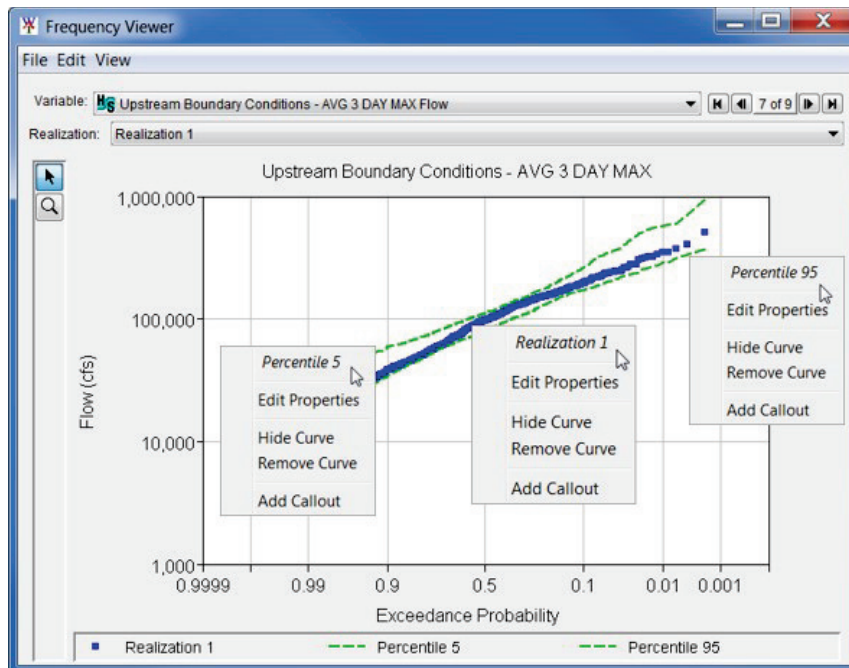

Figure M.14 Plot – Curve Shortcut Menu
1. Right-click on a curve in a plot window (Figure M.14), from the shortcut menu, click **Edit Properties** (Figure M.14), the **curve name Properties** dialog box will open (Figure M.15). In Figure M.14, there are three curves displayed, and each of those curves has a shortcut menu, which displays the label (label is generated from the DSS record associated with the curve) associated with the curve.
The user can select a curve that for reporting purposes might not need to be displayed. From a plot window (Figure M.14), right-click on a curve, from the shortcut menu, click **Hide Curve** (Figure M.14), the selected curve will no longer be displayed in the plot. To display the curve again, right-click on the area where the curve originally displayed, from the shortcut menu click **Show Curve**. The selected curve now displays on the plot.
A callout is an annotation or additional information about the curves or points on a curve that are display in a plot. Right-click on a curve, from the shortcut menu (Figure M.14), a user can add a callout by clicking **Add Callout** (Figure M.14). The **Add Callout** message window will open (Figure M.21), in the **Callout Text** box, the user can enter the required information. Click **OK**, the **Add Callout** message window will close (Figure M.21), and the callout will display on the plot along the selected curve.
For reporting purposes, callouts for a selected curve might not need to be displayed. From a plot window (Figure M.14), right-click on a curve, from the shortcut menu, click **Hide Callouts**, from the selected curve, callouts will no longer display in the plot. To display callouts again, right-click on the curve where the callouts originally displayed, from the shortcut menu click **Show Callouts**. From the selected curve the callouts now display on the plot.
Callouts for a selected curve can be deleted, from a plot window (Figure M.14), right-click on a curve, from the shortcut menu, click **Clear Callouts**, from the selected curve, all callouts have been deleted.